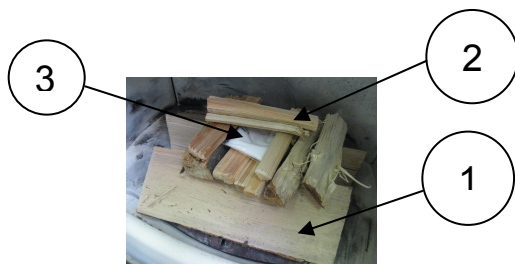

Figure 3:ignite the fire
Put 2-3 logs of wood at the firebox bottom (1) and put the kindling (2) on top. Place a wood lighter aid on top and in the middle of the kindling, light it (see fig. 3) and close the door.